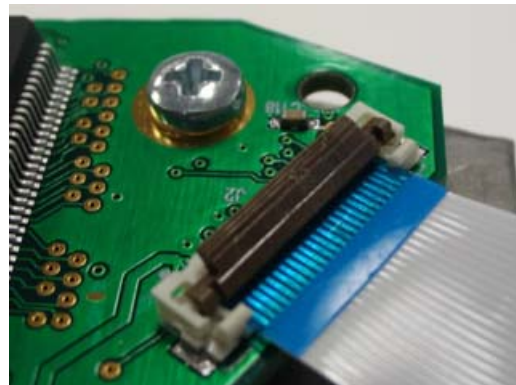

Figure 4.8 Mini-dock Ribbon Cable
- 3 Disconnect the mini-dock ribbon cable by gently lifting up on the connector latch as shown in Figure 4.8.
- 4 Reconnect the ribbon cable as shown in Figure 4.8 on page 20.